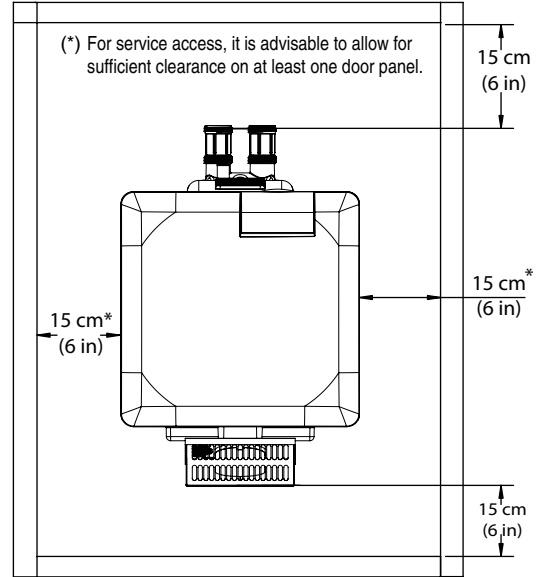

Figure 15.
**Note (\*)** For service access it is advisable to allow for sufficient clearance on at least one door panel. The heater is design certified by CSA International for installation on combustible flooring. For installation on carpeting, the heater must be mounted on a metal or wood panel that extends at least three inches (10cm) beyond the base of the heater. If the heater is installed in a closet or alcove, the entire floor shall be covered by the panel. On an outdoor shelter installation, the exhaust discharges into a vent pipe. Orient the heater so that the vent pipe does not interfere with adjustment of the operating controls. The control panel located on the top panel can be rotated to any of the three sides of the heater for easy access. However, the control panel must not be located on the side where the vent is located, see Figure 15.